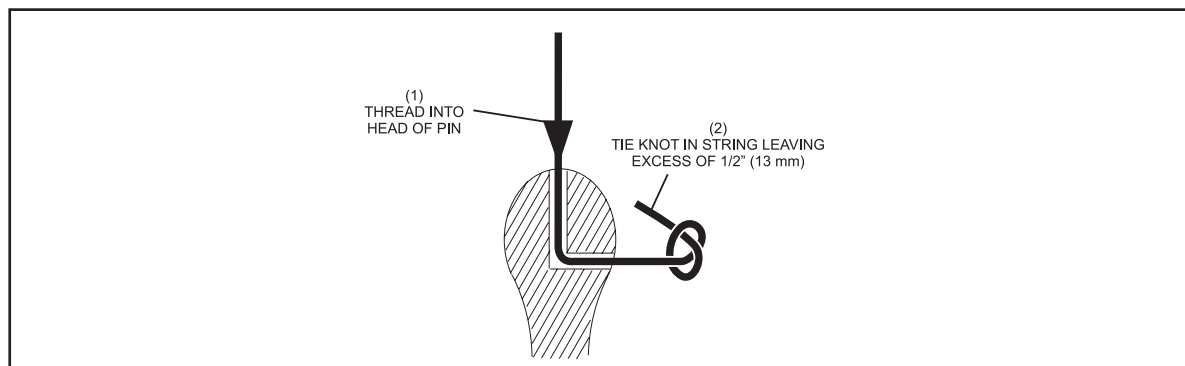

Figure 5-1. Thread String Through Pin
4. Thread the “new” string through the head of the pin and tie a knot in the end of the string. Leave approximately 1/2” (13 mm) of string extending beyond the end of the knot. Refer to *Figure 5-1*.
5. Pull the string back through the pin until the knot bottoms out in the pin. Refer to *Figure 5-1*.
7. At the pin end of the new string, thread the string through the head of the pin and tie a knot in the end of the string. Leave approximately 1/2" (13 mm) of string extending beyond the end of the knot. Refer to *Figure 5-1*.
8. Pull the string back through the pin until the knot bottoms out in the pin. Refer to *Figure 5-1*.